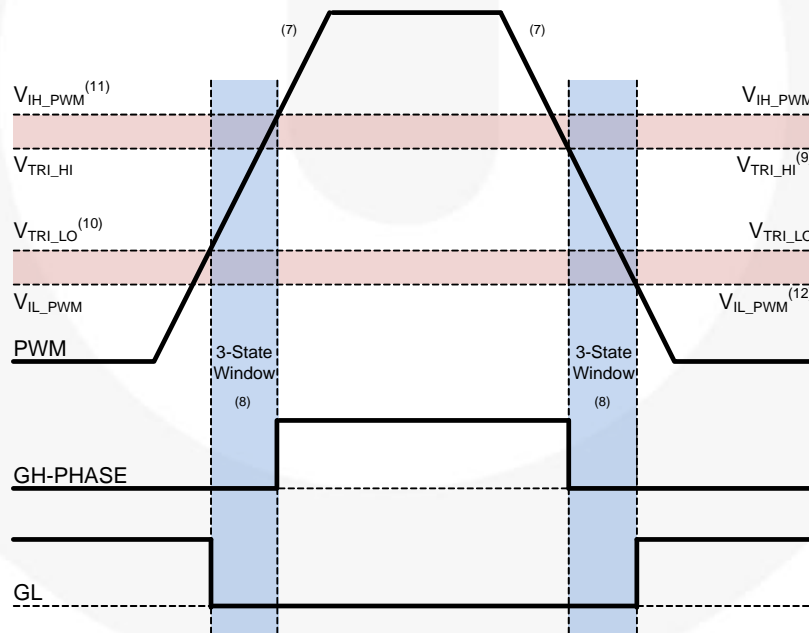

Figure 26. PWM Threshold Definition
6. The timing diagram in Figure 26 assumes very slow ramp on PWM.